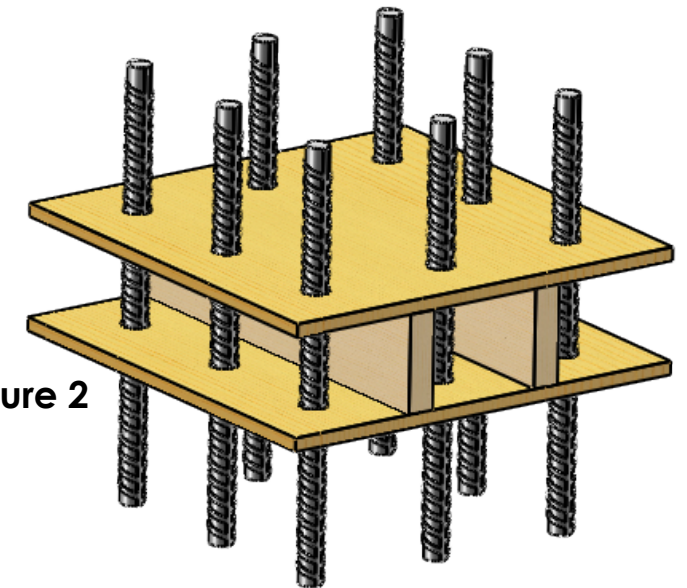

Figure 2
3. Rebar dowels that are protruding from the foundation should be fabricated so that the dowel is approximately 4” to 6” longer than the required couplers embedment length as defined in the nVent LENTON Interlok Instruction Manual. See Figure 2.